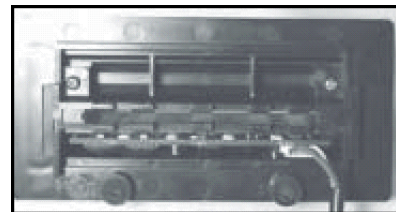

Figure 4
6. Slide the circuit board into the SENTRY faceplate (Figure 4).